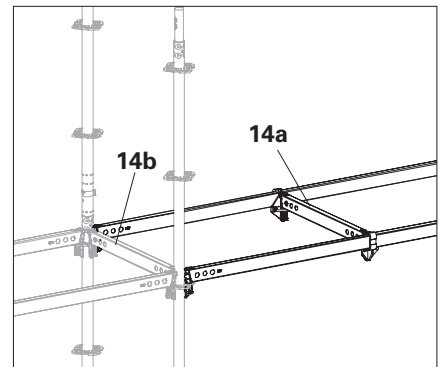

Fig. A11.07c
- Due to increased load requirements, the assembly tolerances are very low. When installing a horizontal ledger (**14a**) that is secured on both sides, knock the horizontal ledgers (**14b**) running parallel to it into place last. (Fig. A11.07c)